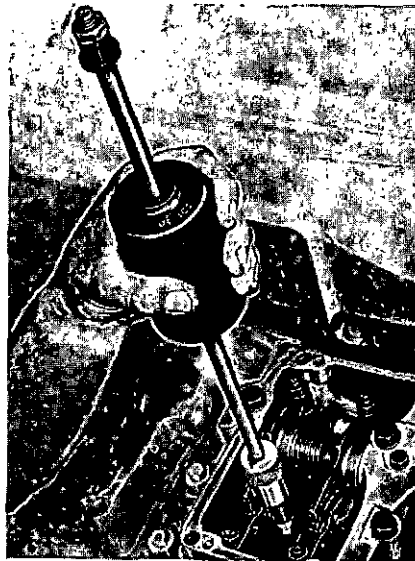

Fig. 9 Using inertia extractor
3. Remove the injector clamp and withdraw the injector. A sticking injector may be freed using the inertia extractor, Rolls-Royce Part No. VT. 11692 and adaptor VT. 17973. Care must be taken to avoid slackening the copper injector sleeve in its housing when using the extractor (fig. 9).